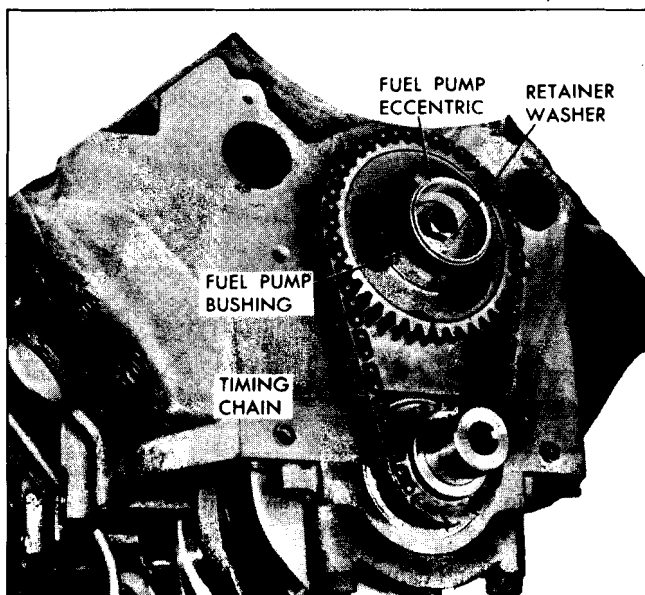

Fig. 6-126 Fuel Pump Drive - All Except 307 Engine
16. On all but 307 engine, if new fuel pump eccentric and bushing are to be installed, remove camshaft sprocket retainer bolt and retaining washer and remove the eccentric and bushing. Place fuel pump bushing over eccentric with rolled flange toward camshaft sprocket (Fig. 6-126).